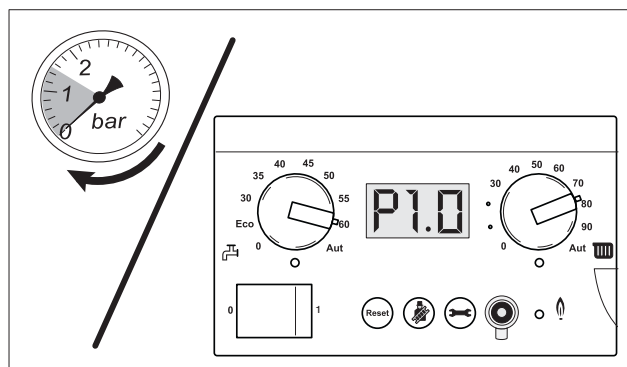

fig. 80 Reading the pressure gauge
- Read the pressure from the pressure gauge on the pump group or on the control panel of the BC10 (fig. 80).